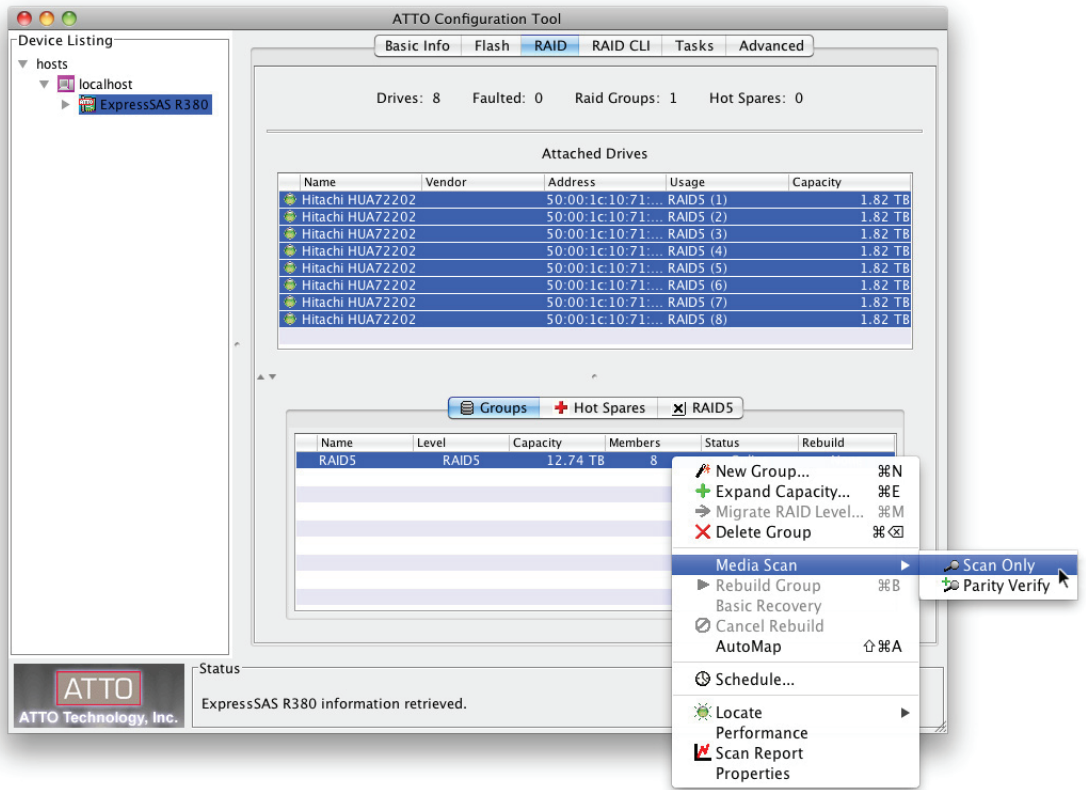

Figure 22
3. Control-click (or right-click) the RAID group and select **Scan Only** or **Parity Verify** (Media Scan + Parity Verify) from the drop menu. See **Figure 22** on page 29. You may also select RAID Management > Scanning > Scan Only (or RAID Management > Scanning > Parity Verify) from the application menu.